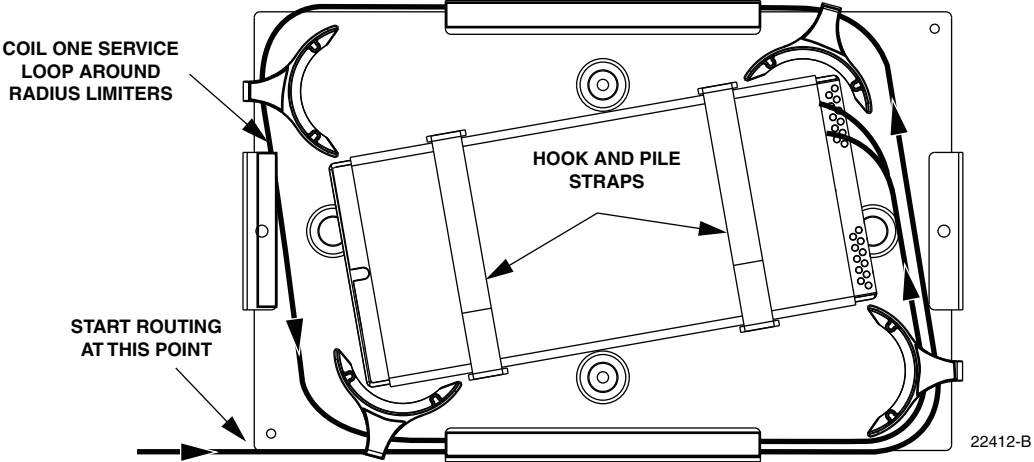

Figure 45. Feeder Splice Tray Replacement - Stranded Fiber Splicing
12. To replace the splice tray, route the attached subunits (there should be two service loops) around the splice tray holder radius limiters as shown in Figure 45. Avoid twisting or kinking the fiber subunit tubes. Maintain a 1.5-inch (3.81 cm) minimum bend radius for all non reduced bend radius fiber.